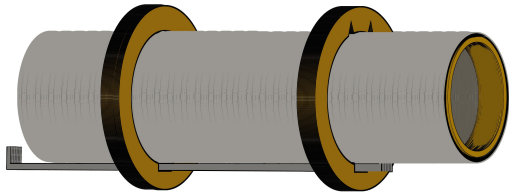

Figure 4
- **Step 8** Insert the engine hook into the slot, then slide the “A” ring up from the bottom of the tube, with the flat notch over the hook, until the ring is touching the line at 1”. Slide the “B” ring down from the top until it is just below the line at 2.5”. Make sure the engine hook is parallel to the tube, not angled or “canted” to one side. When all of the parts are in place, the mount should look like the illustration in Fig. 4 above.